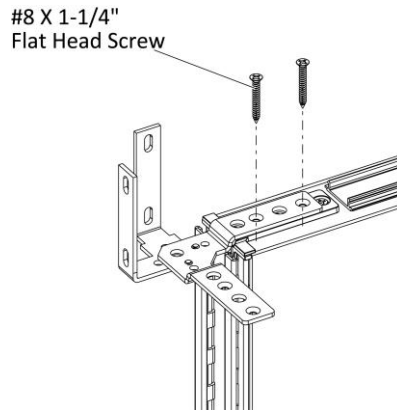

Figure 4
6. Position the assembled connectors on the top edge of one of the short panels, (Figure 4).